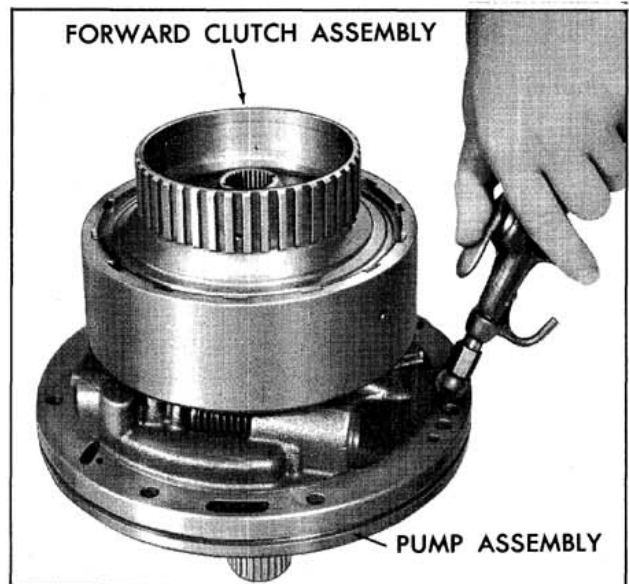

Fig. 6-148 Air Checking Forward Clutch
12. Place forward clutch housing on pump delivery sleeve and air check clutch operation. (Fig. 6-148)